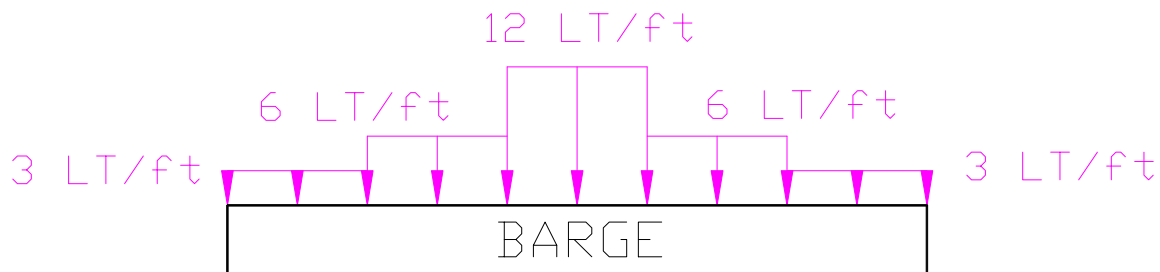

Figure 1 Realistic Loading Pattern on a Box Shaped Barge
2. A more realistic loading pattern for a box shaped barge is displayed below at Figure 1. On the Figure sketch the buoyant force distribution that would maintain the barge at static equilibrium.
3. In the space below, sketch the net load diagram of the barge shown in Figure 1.